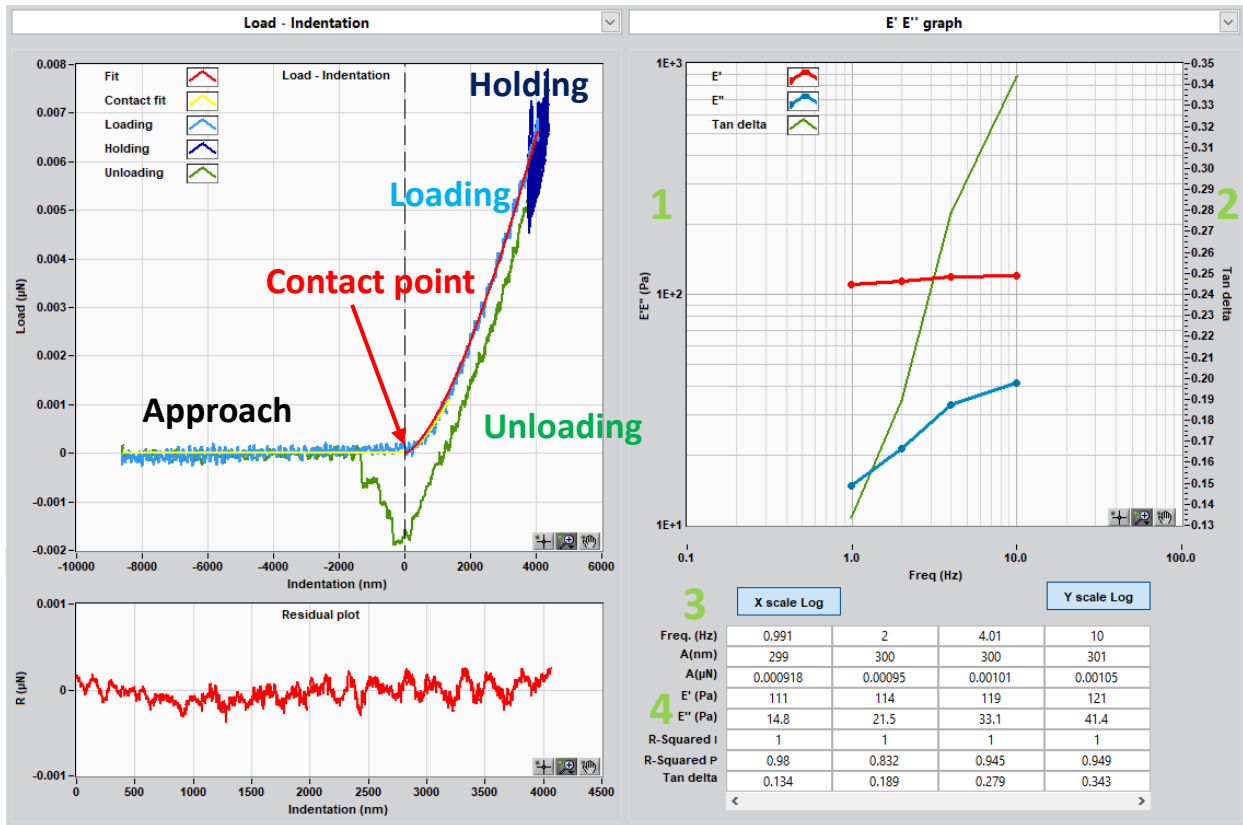
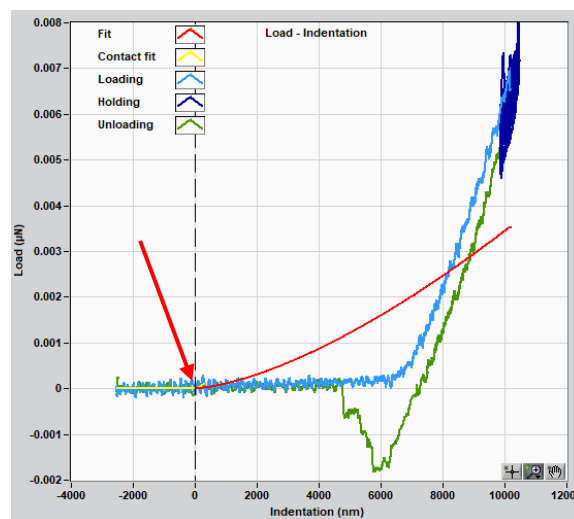

Figure 7: Results from DMA curves (left side) plotted at E' E'' graph (right side). Arrows indicate good Hertz fit for the determination of the contact point.
Figure 8: Example of a bad Hertz fit and a wrong location of the contact point.
Load the *Indentations* folder and select the *Test Indentation_001.txt* file which contains data from a DMA measurement in I-mode. E' , E'' graph contains (see green numbers in Figure 7):
7. Make sure that Hertz fit is well fitted for the initial load-indentation curve (see red arrows in Figure 8). The position of 0, also called contact point, of the **Indentation (nm)** axis, is determined based on this fit and is needed for the correct calculation of storage and loss modulus. See Figure 8 for an example of a bad fit and wrong estimation of the contact point.
- tip radius changes estimation of contact radius a (R) and, thus, Young's modulus for all models.
2. **Model settings** – select the desired model, **Oliver & Pharr**, **JKR**, **Hertzian contact** or **Hertz for hemispherical samples** and press **Save** to initiate analysis with the new settings. Decrease the value in **Pmax % for contact point** until a good fit of the initial load-indentation curve is achieved (see Figure 7 and Figure 8 for good and bad fit). Using the **Single fit method** for **Hertzian contact** will disable **Pmax % for contact point** and use one fit to calculate both the contact point and the Young's modulus.